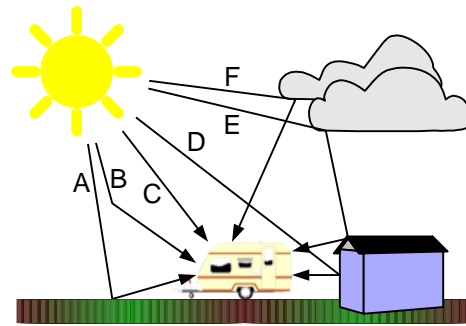

Figure 12. Varied Illumination Sources
During the daytime, an object on the ground is illuminated by several sources. Some of these sources are illustrated in Figure 12:
In Figure 12, we see that an object (here a travel trailer) is illuminated by sunshine several ways. Some of them are as follows:
- **The Light That Illuminates an Object.** Recall that the light that illuminates the ground starts as sunlight, but is modified by atmospheric absorption and scattering. Reflection and scattering from nearby objects also contribute to illumination. Thus, the illumination of an object depends on atmospheric conditions and the surroundings. See Figure 12 on page 15 for an illustration of these effects.